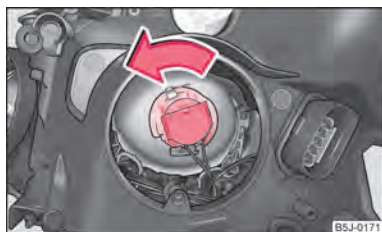

Fig. 159 Removing the light bulb for the low beam and main beam light/low beam light
- Turn the connector with the light bulb up to the stop towards the left ⇒ fig. 159 and remove.